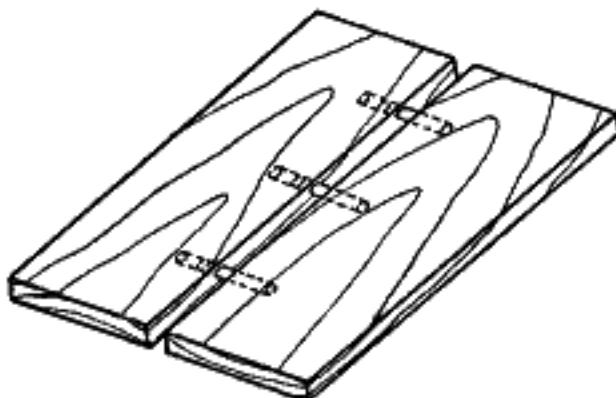

FIG. 87.—A doweled joint ready to be glued and assembled.
**89. Doweling.**—A doweled joint is one in which the pieces are held together by round wooden pins called *dowels*. Figure 87 illustrates a